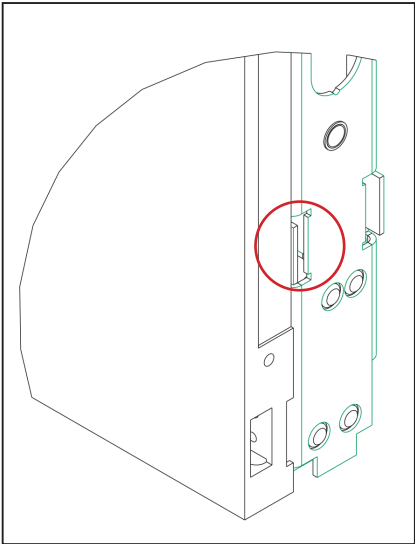

Figure 22: Ensure Alignment Tabs Do Not Protrude Past Display Edge
- 6. Push the panels together and verify the far-left and far-right frame alignment tabs are not protruding beyond the display limits. Refer to **Figure 22**. Shift the panels left or right as needed.